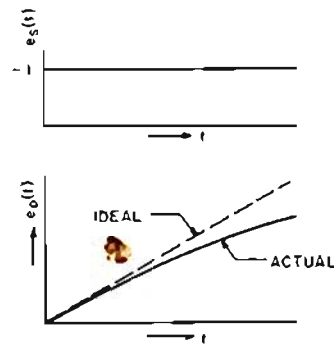

Figure 7. Step Response Showing Low Frequency Error Due to Finite Gain
To illustrate more clearly the effect of low frequency errors, consider the response of (5) to a step function input as given by (6) and Figure 7.